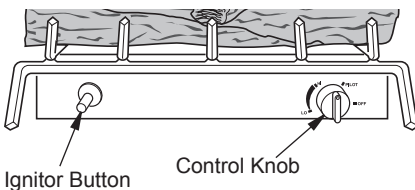

Figure 30 - Control Knob and Ignitor Button Location
5. Slightly depress and turn control knob counterclockwise ↶ to the **PILOT** position. Press in control knob for five (5) seconds (see Figure 30).